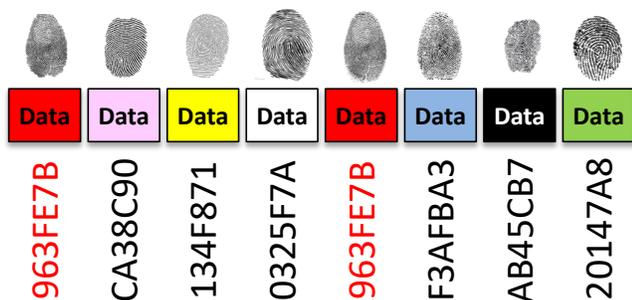

Figure 6. Fingerprint Allocated to Each Block
2. For every data block, the array allocates a unique fingerprint to the data, as shown in Figure 6.